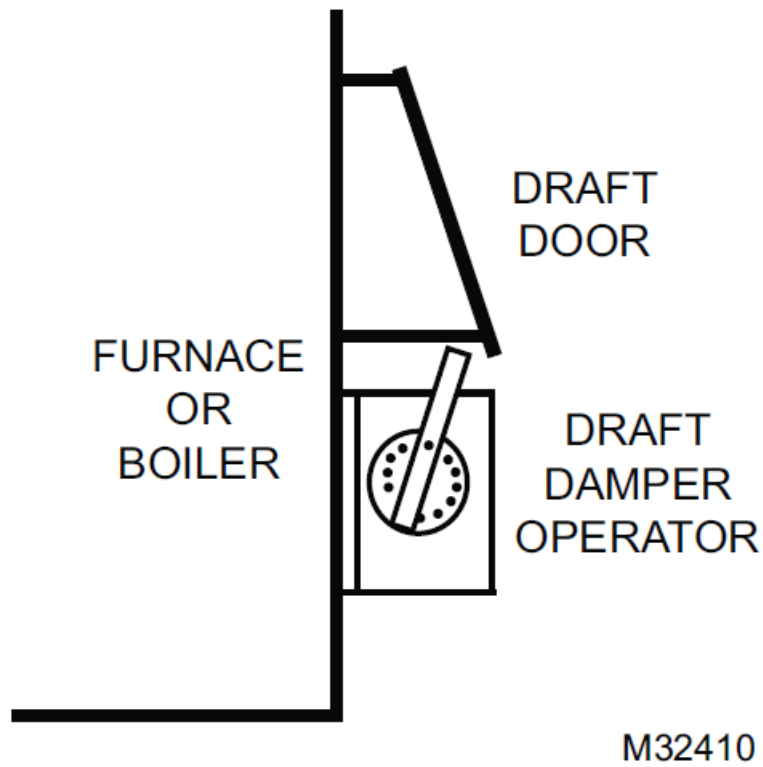

Fig. 7. Typical location of draft damper operator with arm.
2. Locate the operator beneath the draft damper as shown in Fig. 7, positioning it so the extreme rotation of the arm will open (raise) the damper the required amount. The arm must physically engage the draft damper when the operator is energized.